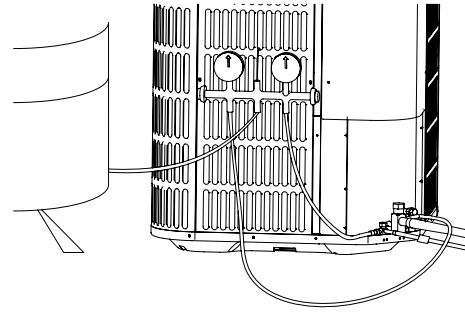

Figure 15-5
- Connect gages to refrigerant bottle and unit as illustrated (Fig. 15-5).